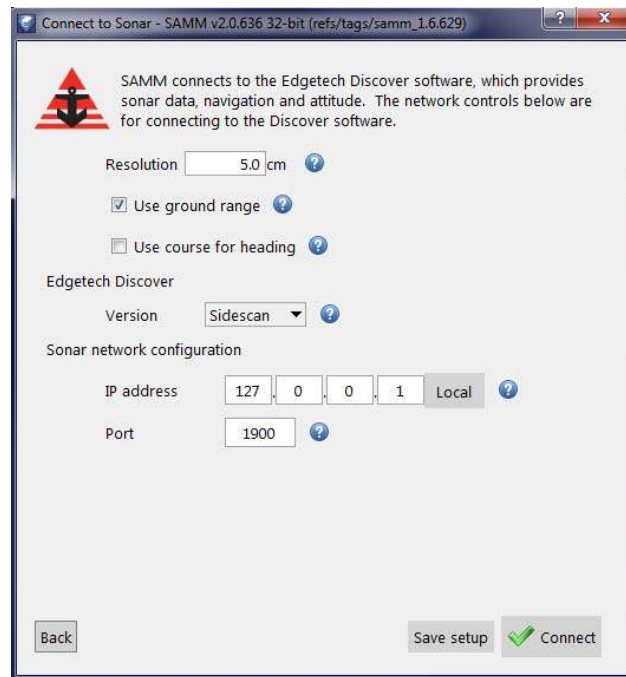

Figure 53. SAMM interface to Edgetech Discover
7. In the Edgetech Discover interface window (Figure 53), set processing parameters as necessary.